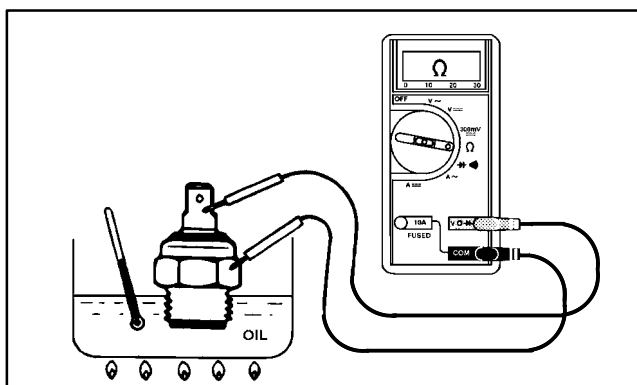

Figure 51
3. Put the end of the switch in a container of oil with a thermometer and slowly heat the oil (Fig. 51).